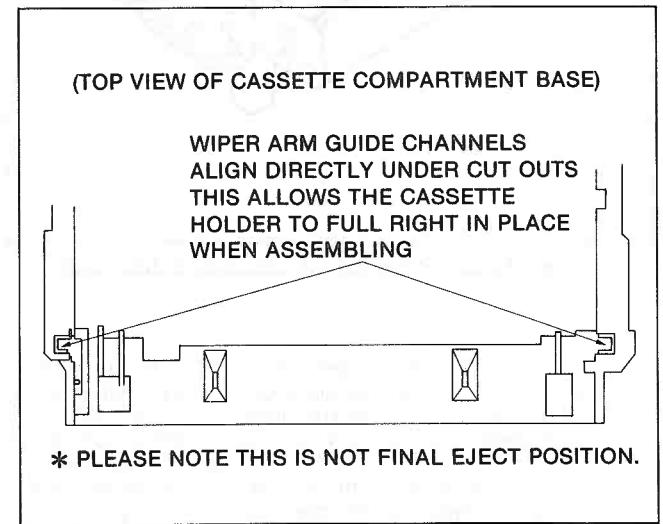

Figure M68
7. Stop the manual eject procedure just before completion, so that the Sub Wiper Arms straight up. This position is also characterized by the channel guides (In the Wiper Arms) being directly under the cut outs on the top of the Cassette Compartment base(Figure M68).